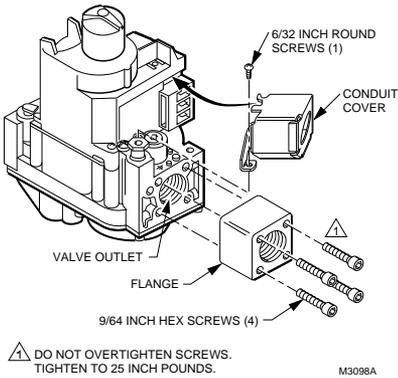

Fig. 1. Install flange to gas control.
1. Never apply a jumper across or short the valve coil terminals. This can burn out the heat anticipator in the thermostat or damage the electronic intermittent pilot (IP) module.
2. When a gas control is installed external to the appliance, a conduit cover must be installed. See Fig. 1. Place the conduit cover over the flange, then rotate the conduit cover into position.
4. With the O-ring facing the gas control, align the screw holes on the gas control with the holes in the flange. Insert and tighten the screws provided with the flange. See Fig. 1. Tighten the screws to 25 inch-pounds of torque to provide a gas-tight seal.
4. Make sure the conduit cover is in position and secured to the gas valve with the screw provided. See Fig. 1.